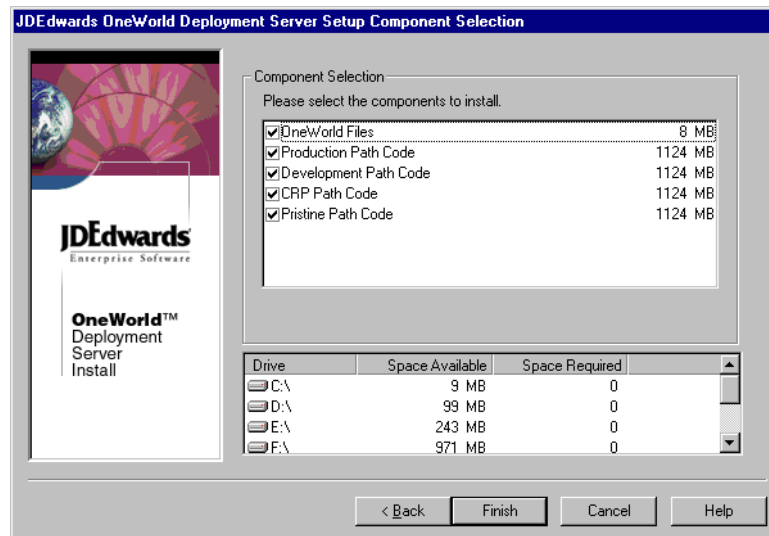

Figure 256. OneWorld Deployment Server Setup Component Selection
- Click **Next**. You see a form that appears as shown in Figure 256.